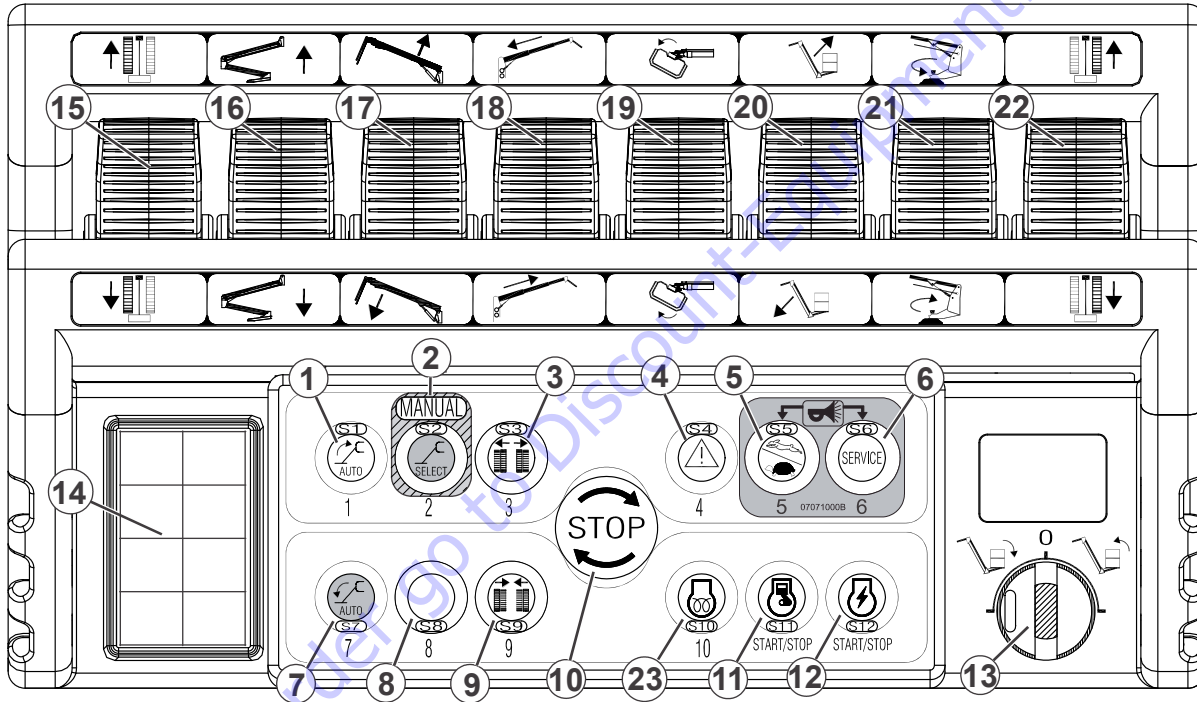

Figure 4-5. Platform/Remote Control Box
(Reference Figure 4-5. for item numbers)
*(Item 23, Figure 4-5.)*
*(Item 13, Figure 4-5.)*
*(Item 16, Figure 4-5.)*
*(Item 17, Figure 4-5.)*
*(Item 18, Figure 4-5.)*
### **Platform Rotation (Item 19, Figure 4-5.)**
### **Raise And Lower The Jib (Item 20, Figure 4-5.)**
### **Swinging The Boom (Item 21, Figure 4-5.)**